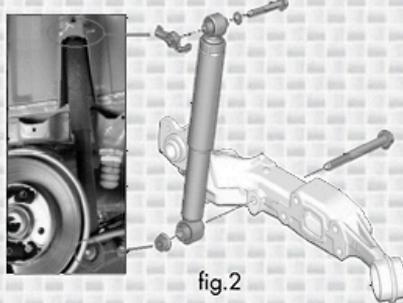

fig.2
- Deposit the fixation of the shocks (Fig. 2)